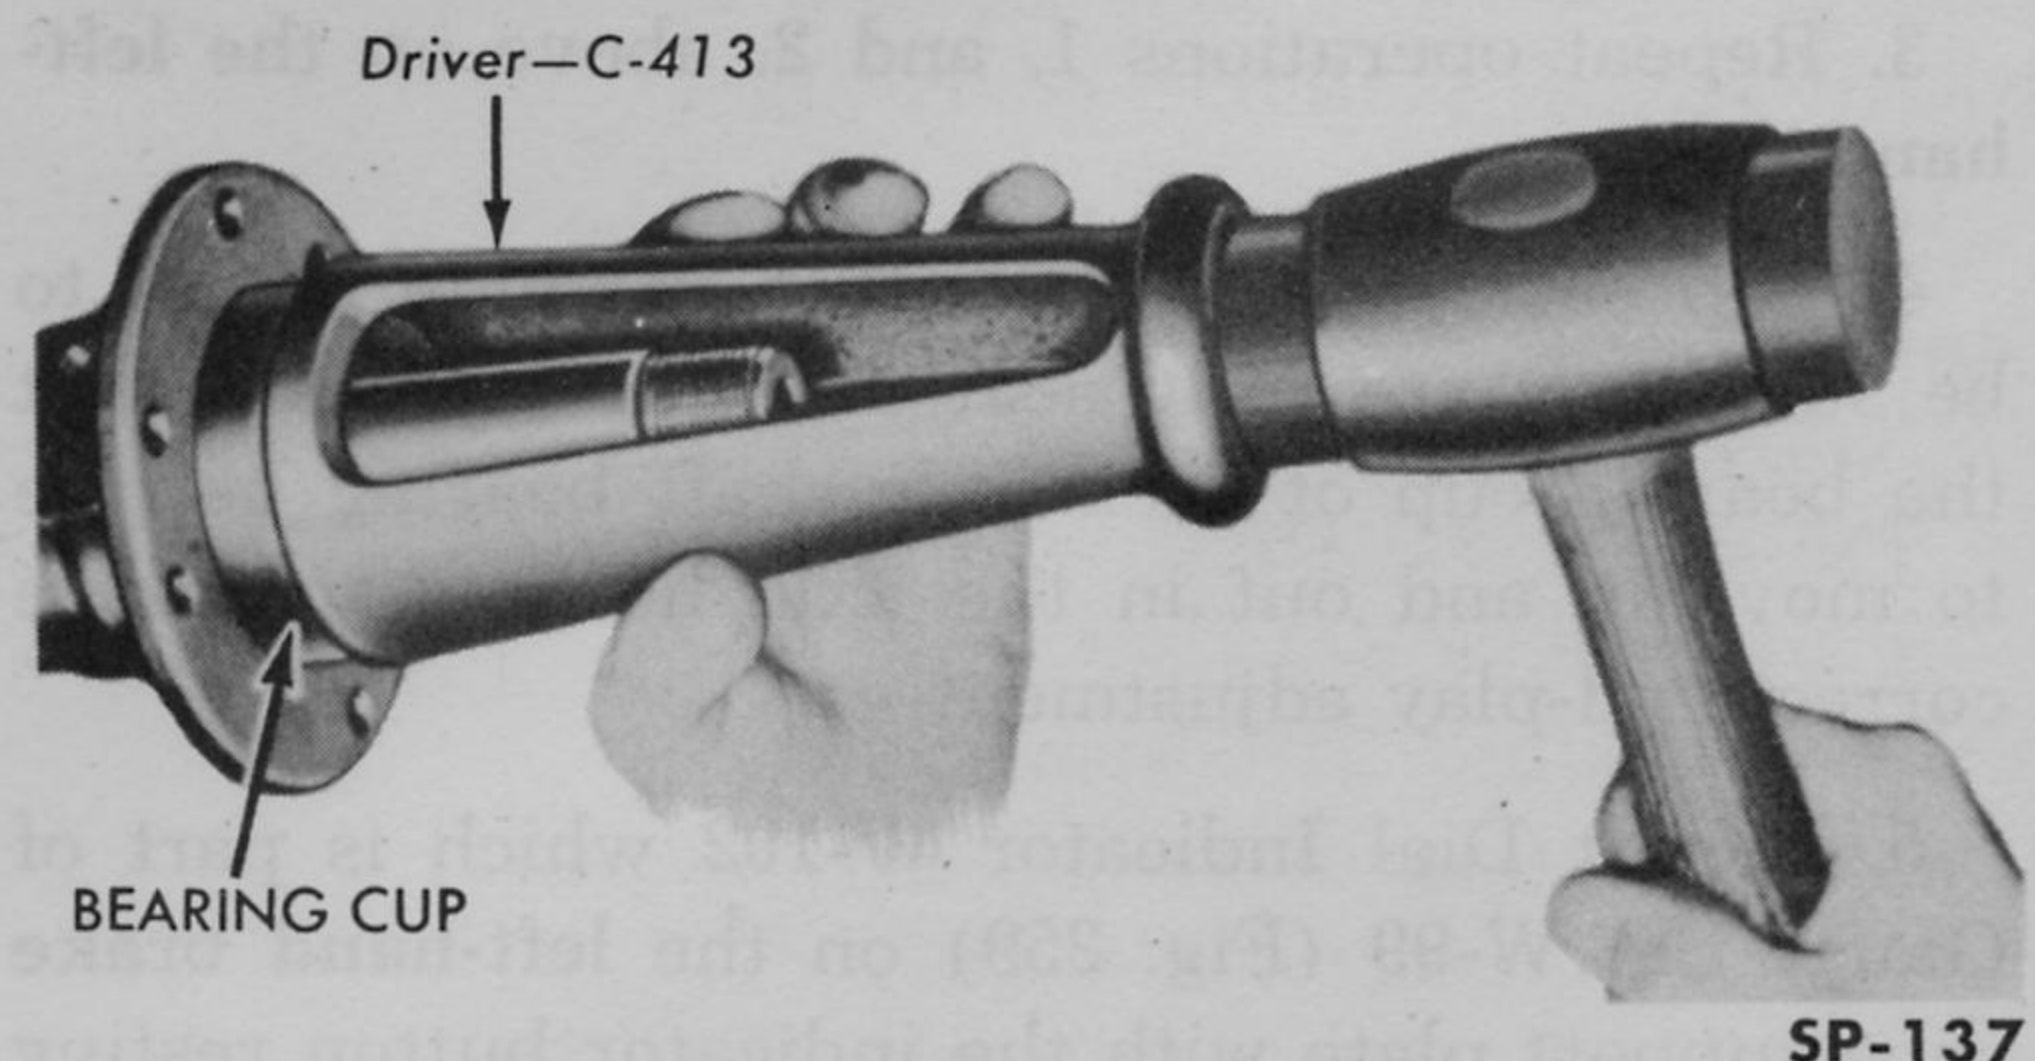

Fig. 258—Installing Rear Axle Shaft Bearing Cup
5. With the axle shaft fully seated, install the bearing cup, using Driver C-413 (Fig. 258).